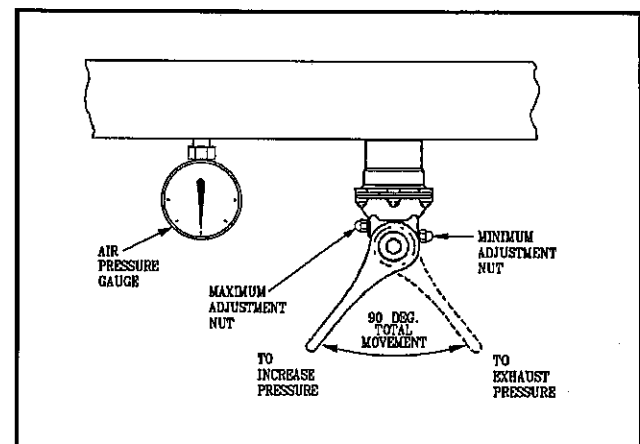

FIG. 4-4 HAND VALVE
The HAND VALVE (See FIG. 2-2 and FIG. 4-4) is located on the rear-most airbag crosstube beside the AIR HEIGHT CONTROL VALVE. It has two positions.
The PRESSURE GAUGE (See FIG. 2-2 and FIG. 4-4) is located near the HAND VALVE. This gauge provides air pressure information for adjusting the air ride system manually.
4-7.1 Minimum air pressure should be at least three (3) PSI. Loosen the minimum adjustment nut (See Fig. 4-4), set the air pressure at three (3) PSI and tighten the nut again.
4-7.2 Maximum air pressure should be no more than eighty-five (85) PSI. Loosen the maximum adjusting nut (See FIG. 4-4), set the air pressure at eighty-five (85) PSI and tighten the nut again.